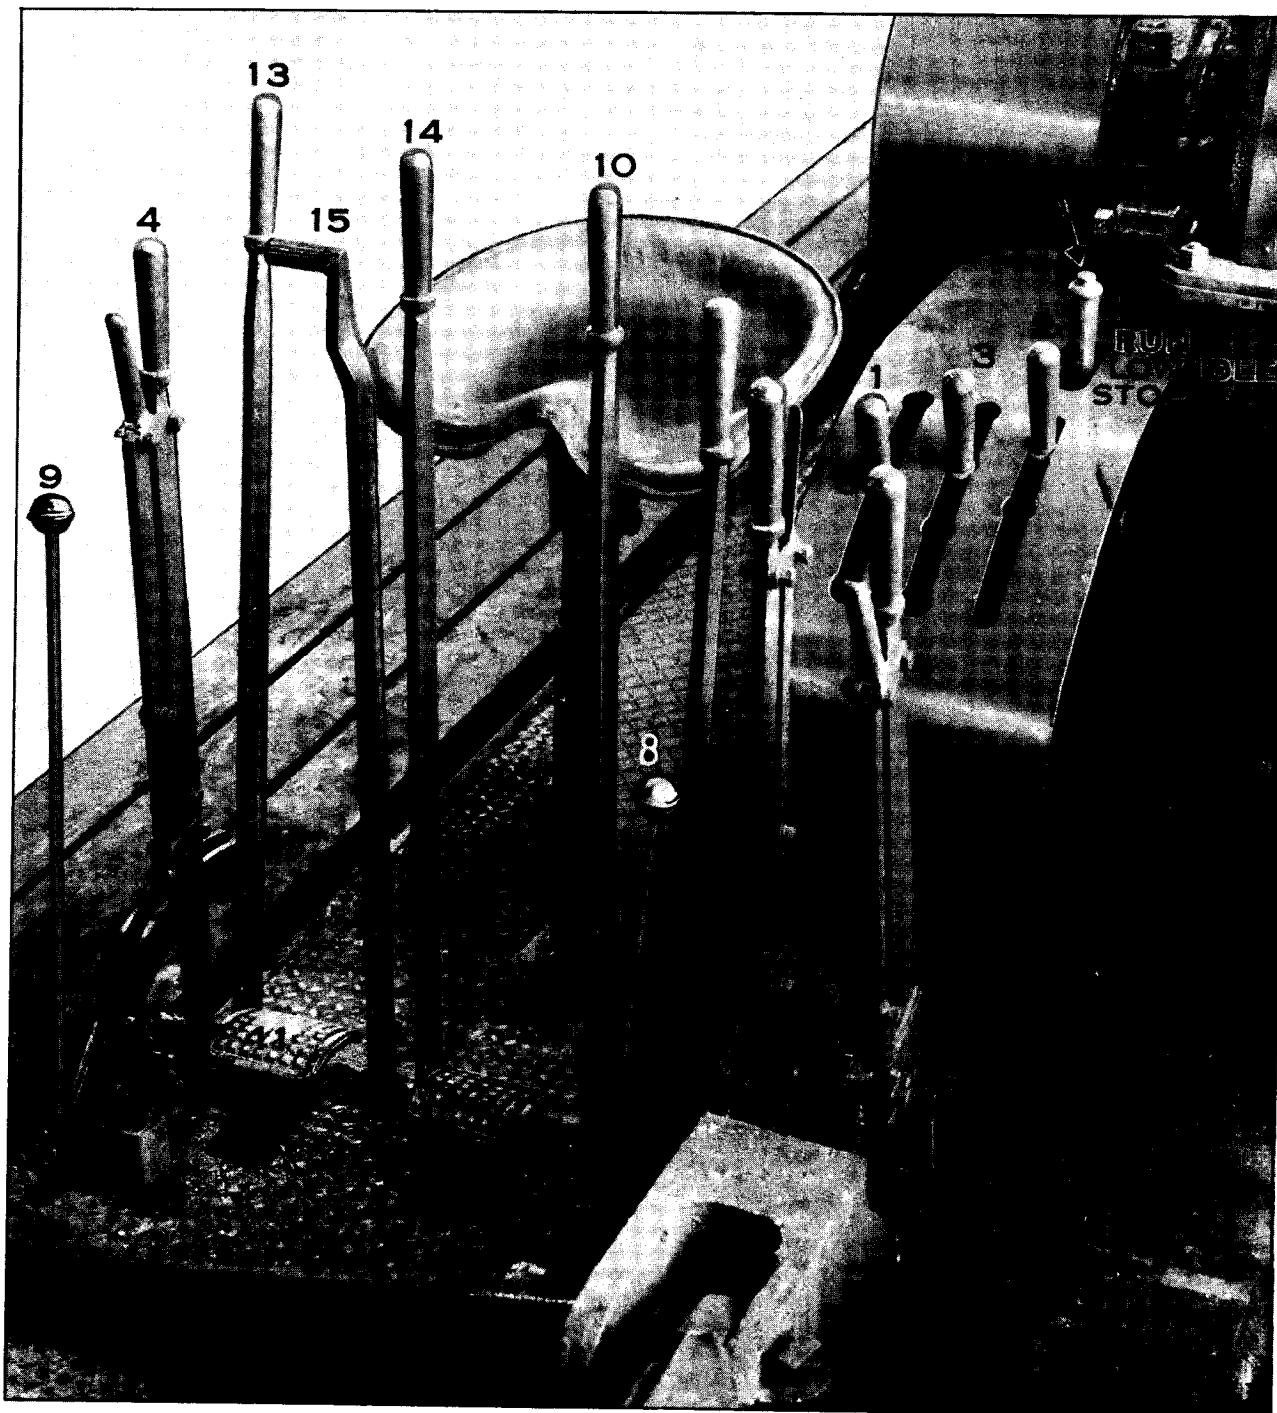

FIG. 2
F. SUMMARY OF CONTROL LEVERS (SEE FIG. 2)